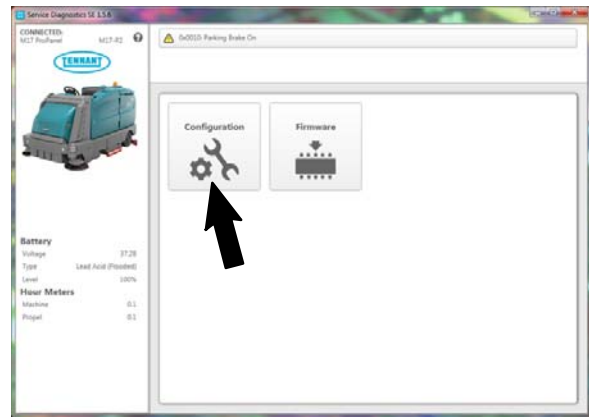

FIG. 19
- Check the machine configuration selections for incorrect installed options. Select the Configuration button. (Fig. 19)